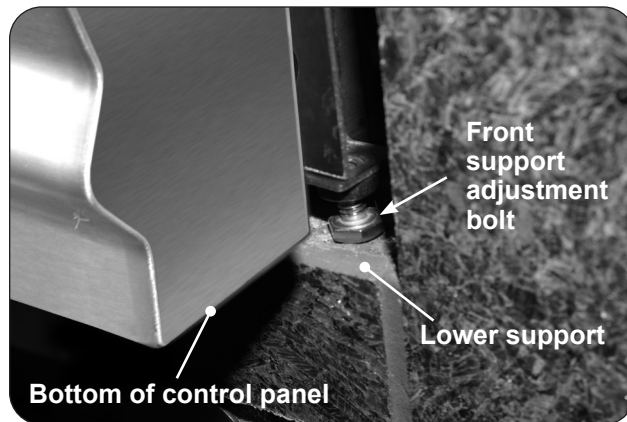

Fig. 25-1 Front support adjustment bolts
2. Rotate the front support adjustment bolts (up or down) until the grill hanger rests flush on the countertop, AND, the adjustment bolts are touching the supporting structure found at the bottom of the cutout (lower support). Use a $7/16$ " open-end wrench as needed. See Fig. 25-1.